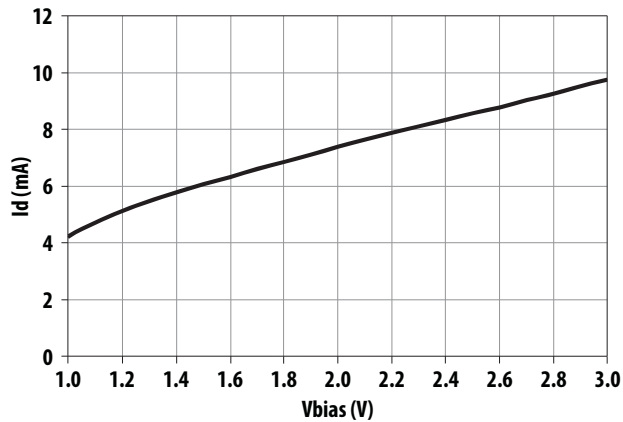

Figure 5. Id vs Vbias (Vdd = 3 V; Vsd = 0 V). Vbias is varies in this plot.
- Device operation in LNA mode if $V_{bias} > 1.5\text{ V}$ and $V_{SD} < 0.5\text{ V}$. Bias current of LNA can be varied with different values of V_{bias} for $V_{bias} > 1.5\text{ V}$. See Fig 5 below.